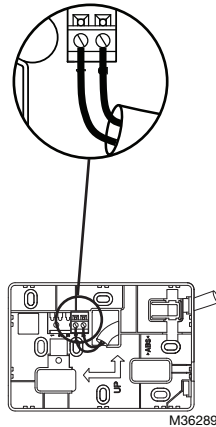

Fig. 5. Connecting wires to the terminal block.
Wire the terminal block as shown in Fig. 5:
3. Review and verify the terminal connection wiring illustrated in Fig. 5.